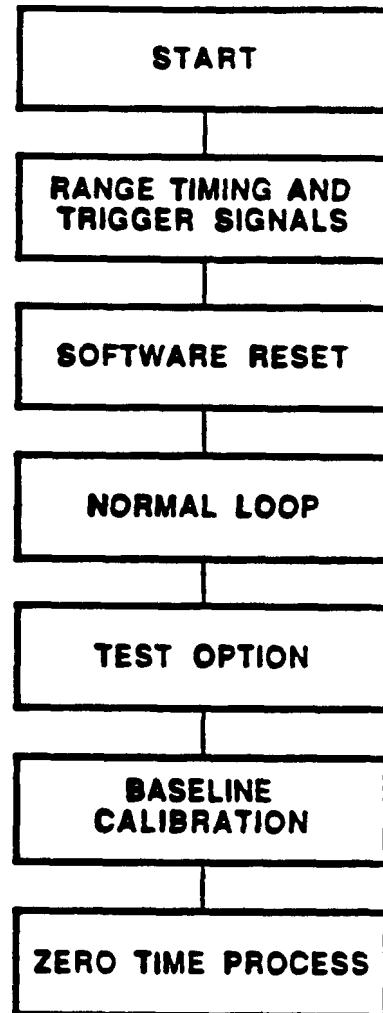

Figure 5. Flowchart of the Major Sections
**Major Branches** To help the reader understand the software, this section divides the code into the major branches the code jumps to while running in either the idle-time or the zero-time loop. Figure 5 is a flowchart of the major branches.